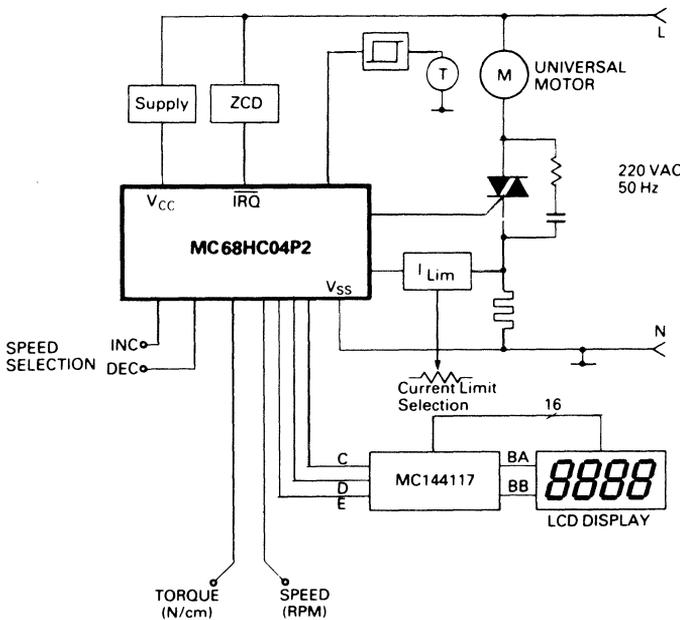

Figure 6.7. Professional Drill Control
6.2.6 Professional Drill Control (Fig. 6.7)